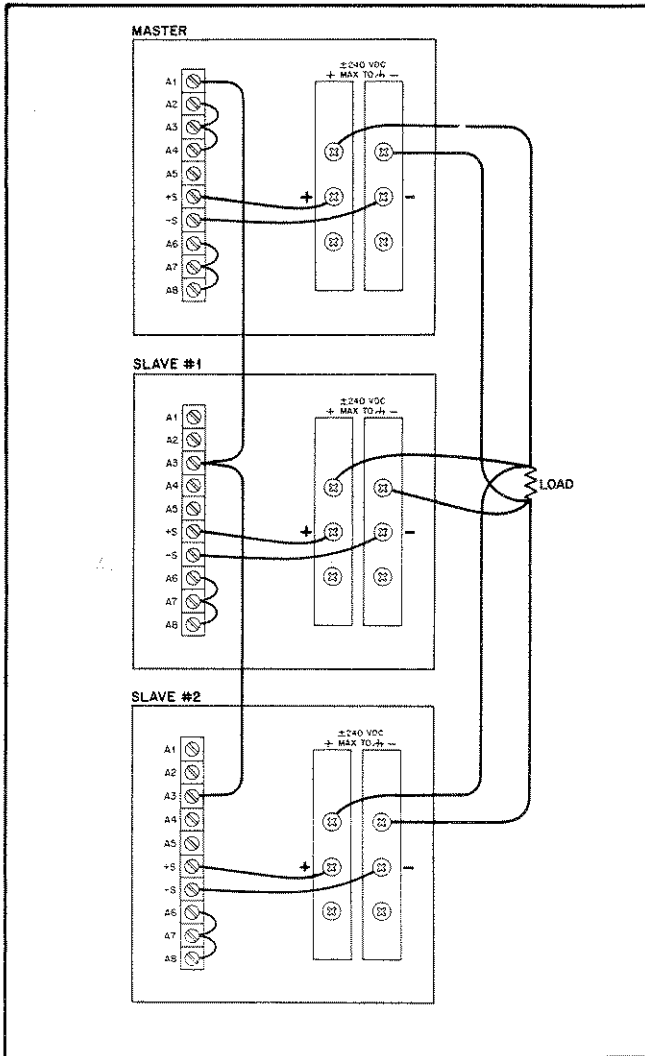

Figure 3-14. Auto-Parallel Operation
**3-62** Figure 3-14 shows the rear-panel interconnections required to auto-parallel two or more units. This mode of operation provides a greater current capability than can be obtained from a single supply, while ensuring that each supply will share the load proportionally to its own total power capability under all load conditions. For example, if a 1000W supply and a 200W supply were auto-parallelled, the 1000W supply would provide 5/6 the total current and the 200W supply would provide 1/6 the total current. The 6012A can be auto-parallelled only with other autoranging units, or with units that have current-monitoring output signals that are internally referenced to the - output and equal to +5V at maximum rated current output. Any number of supplies may be connected in auto-parallel.